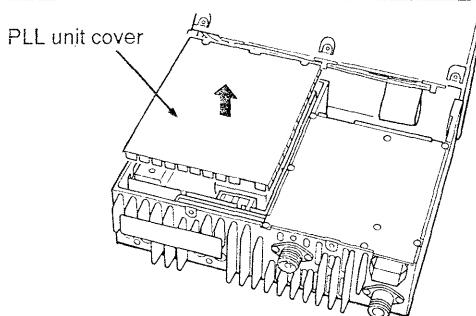

Fig. 1.
- ① Remove both the top and bottom covers. (p. 44)
- ② Open the MAIN unit chassis. (p. 44)
- ③ Remove the shield cover from the PLL unit. (Fig 1)